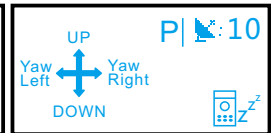

Figure 10-5: Hibernate
- If it is displayed as shown in Figure 10-5,the drone is in sleep mode,you need to wake up the remote controller before you can operate it.